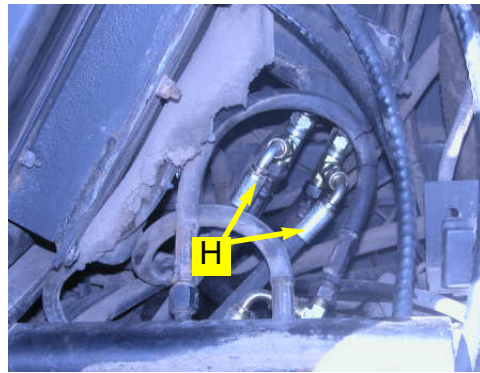

Figure 6b. Left and right steering hoses attached to run tees.
- c. Attach the left and right steering hoses' (H) 90-degree elbows (H) to the run tees. (Figure 6b.)